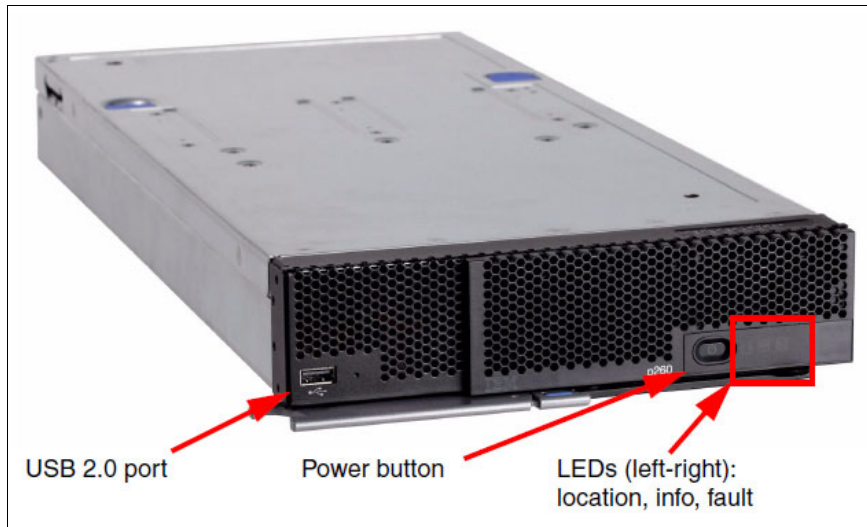

Figure 10-3 Front panel of the IBM Flex System p260 compute node
- ▶ Install VIOS by using a DVD through the supported USB optical DVD drive, which is connected to the p260 front panel as shown in Figure 10-3.